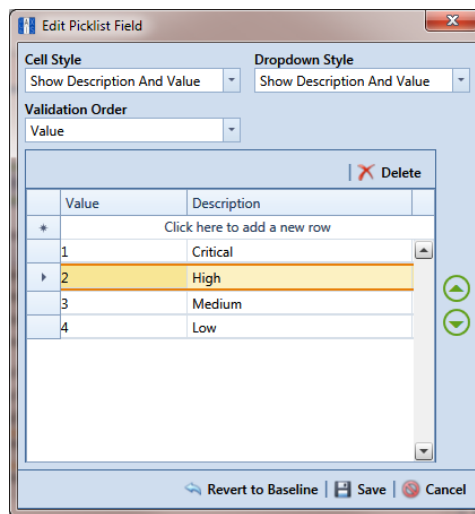

Figure 3-43. Edit Picklist Field
- 6 Click the edit icon  again for the data entry field converted earlier to a *Standard Picklist* to open the *Edit Picklist Field* dialog box (Figure 3-43).
- a** Click the message *Click here to add new row* to add an empty row of fields for data entry (Figure 3-43, page 87).